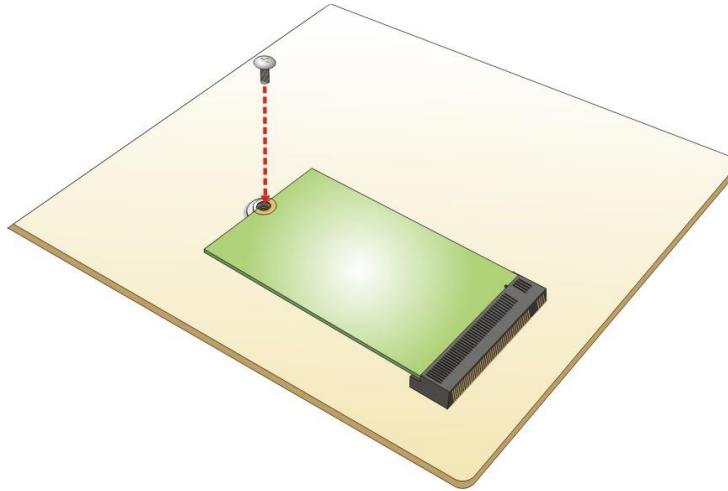

Figure 4-9: Securing the M.2 Module
Step 4: Secure the M.2 module with an M2*3 retention screw (**Figure 4-9**).